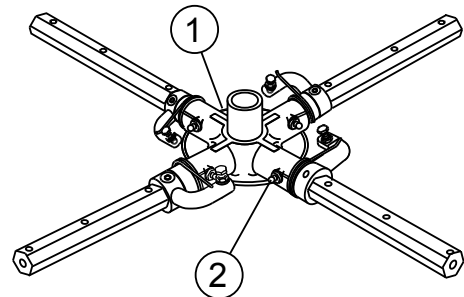

Figure 40. Removing Zerk Grease Fitting
1. Each trowel arm is held in place at the spider plate by a hex head bolt (with zerk grease fitting). Remove the hex head bolt/zerk grease fitting from the spider plate (Figure 40).